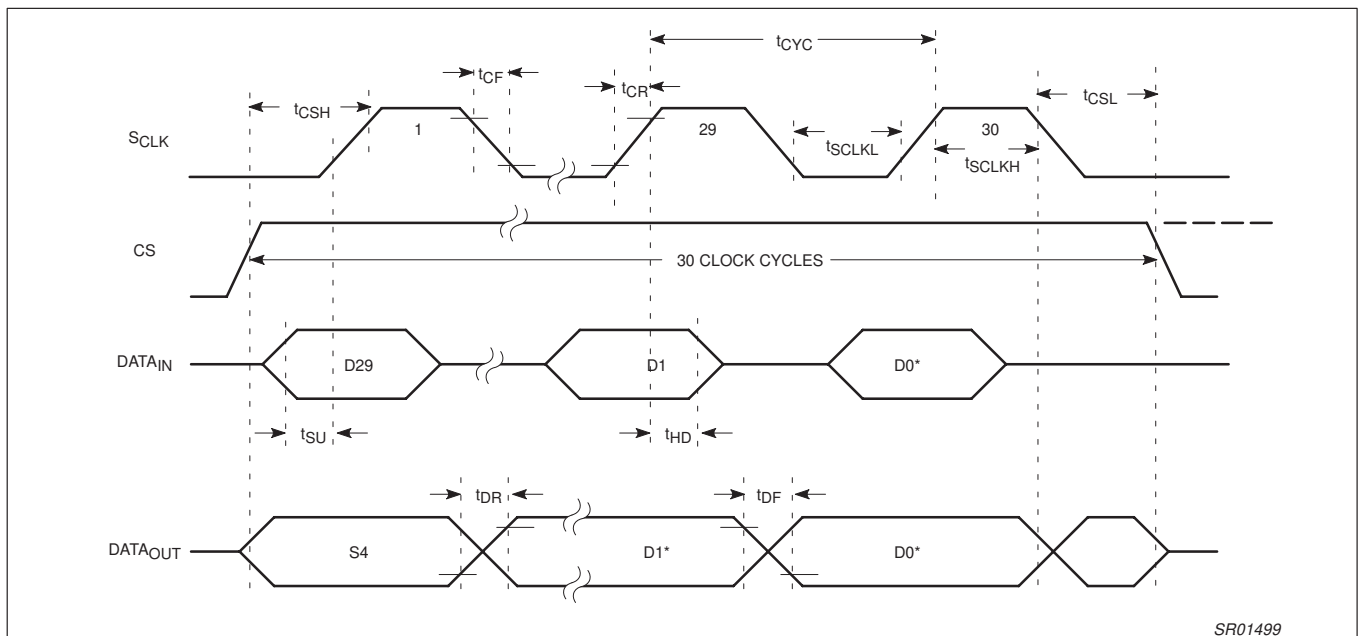
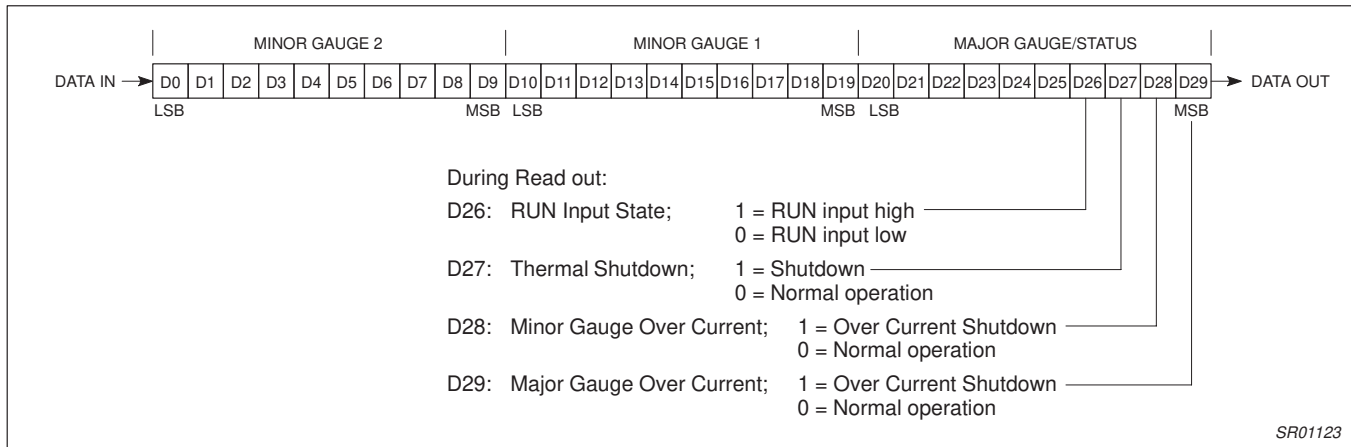

Figure 10. Serial Interface Timing
Figure 11. Internal Shift Register
Figure 4 demonstrates the connections between the STGD, the microcontroller, and optionally additional gauge drivers such as the SGD and DGD. With an active high on the chip select input (CS), data is shifted into the STGD through DATAIN on the rising edge of SCLK. Several gauge drivers may be wired in series using a common chip select and clock line, when more than three gauges are needed. The DATAOUT pins are cascaded to the DATAIN pins of the following gauge drivers. Status information can be returned to the microcontroller via the ST pins of each gauge driver. These are open-drain, active low outputs, which may be wire OR'ed together to signal that a fault, such as a thermal shut down, has occurred within one of the gauge drivers. This pin may be connected to a microcontroller port pin for polling in software, or may be connected to an external interrupt input to cause entry into an interrupt service routine. The STGD, may also pass status information back to the microcontroller serially. The rising edge of chip select loads status information into the shift register for the first four bits that will be shifted out of the STGD by the shift clock. Figure 11 shows the data bits within the shift register. A low on the ST pin signals that one or more status bits have been set in the status register. A high indicates all status bits are reset. The status output bits include minor gauge over current, major gauge over current, thermal shutdown and RUN. Gauge data is captured in latches by the falling edge of the chip select.
Figure 10 demonstrates the serial interface timing referenced in the AC specifications. Figure 11 shows the order of information transfer through the serial interface. On a low to high transition of the CS pin, status information replaces the four most significant bits of data in the shift register and are the first bits shifted out. Output data is changed on the falling edge of  $S_{CLK}$ , while input data is captured on the rising edge of  $S_{CLK}$ . Major gauge data is loaded first, starting with the most significant bit, followed by minor gauge 1 data then minor gauge 2 data.